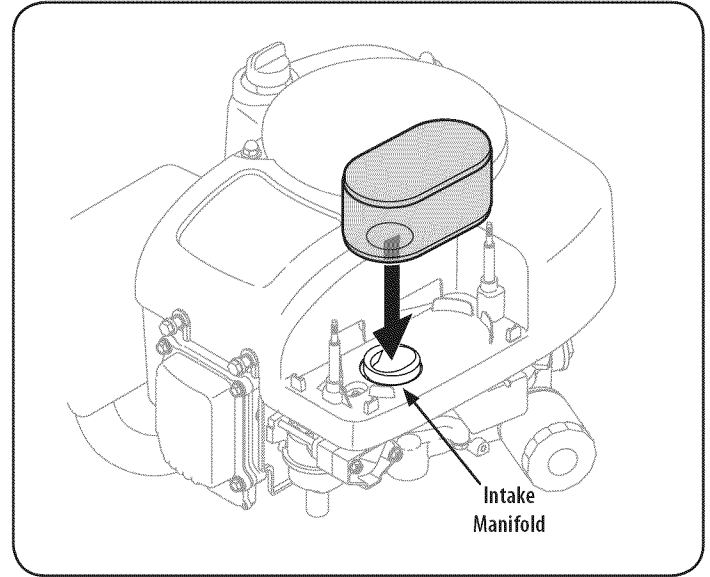

Figure 28
5. Attach the new air filter with foam element, aligning the hole in the air filter with the intake manifold. See Figure 28.